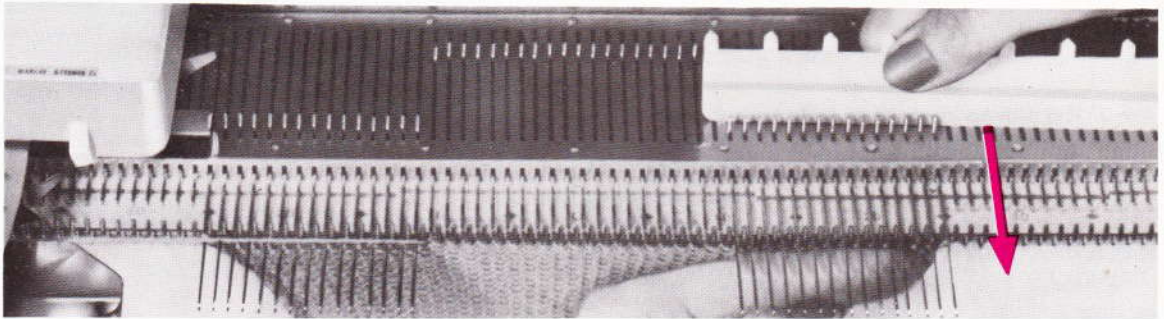

Fig. 176
3. Using the flat needle selection bar push the 15 needles on the right to F position. Turn row counter back to 000 (fig. 176).